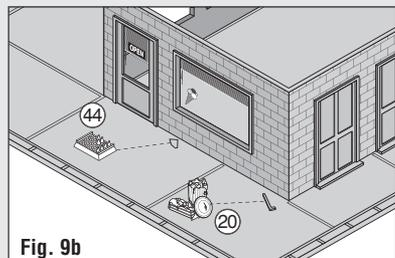

Fig. 9b
Right Side (Fig. 9b): Soda Bottles (44), Group of Trashcans (20)